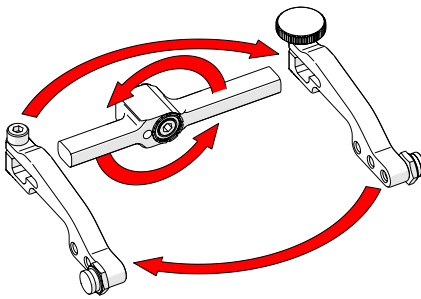

Fig. 77 - Flip yoke and reverse arms
4. Flip the yoke 180° and swap the probe holder arms (Fig. 77).